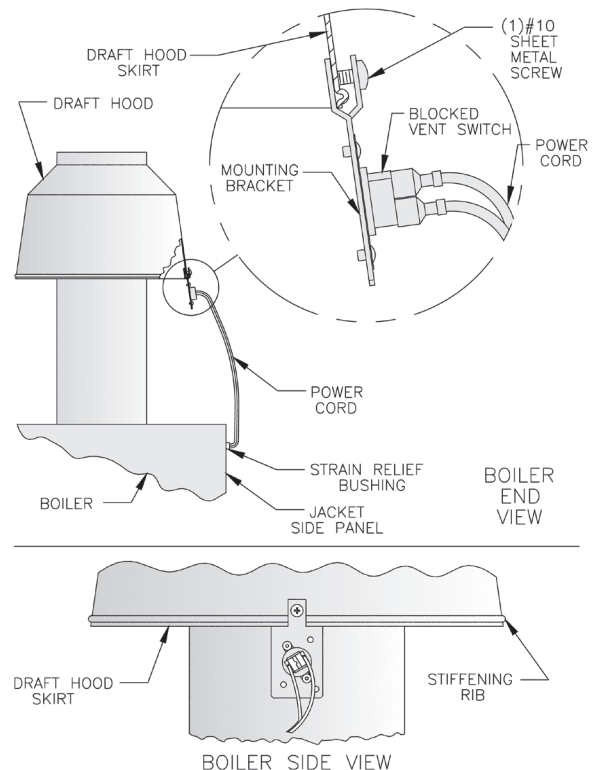

Figure 23: Blocked Vent Switch Installation
metal screw) on outside and other two teeth inside Draft Hood skirt. See Figure 23.
7. Verify power cord, mounting bracket, and Blocked Vent Switch are secure and located as shown in Figure 23.